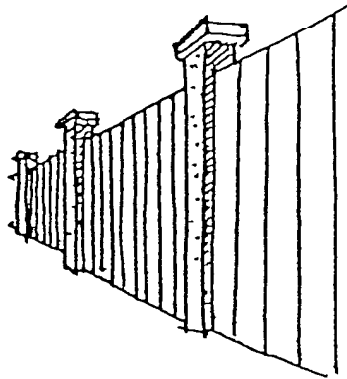

Figure 13
- ☐ Solid fencing in side and rear yard areas should be design with posts separating the fence into smaller segments (Figure 13). The fence should be attractive in appearance on both sides.